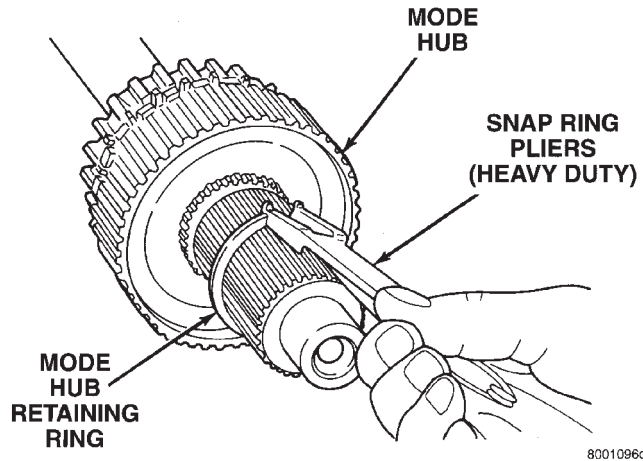

Fig. 23 Mode Hub retaining Ring Removal
(2) Remove mode hub retaining ring with heavy duty snap ring pliers (Fig. 23).